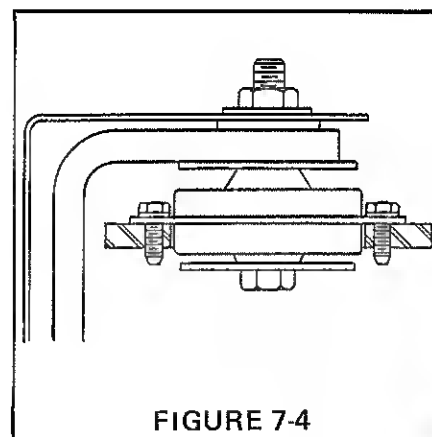

FIGURE 7-4
When replacing the rubber engine mounts, make sure that the correct mount is replaced. To check, push down on the center of the rubber mount. The softer mounts should always go to the rear. See Figure 7-4 for correct assembly.
6. Disconnect wire harness (E) Figure 7-4 at connector.